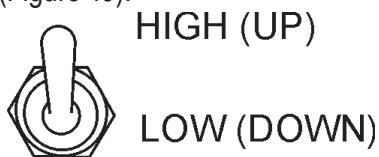

Figure 49. Engine Speed Switch (High)
11. Once the engine is warm and the engine is running properly, place the engine speed switch in the “HIGH” position (Figure 49).